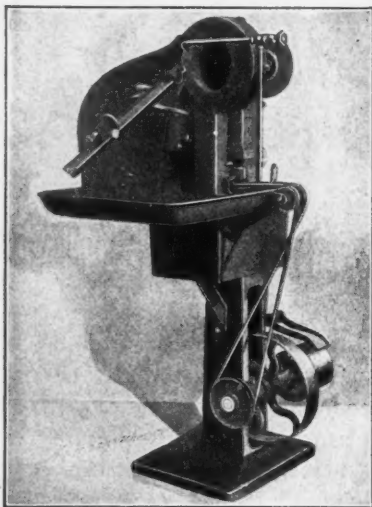

Fig. 15. Water Twist Drill Grinder.
L. S. Heald & Son, Barre, Mass., are now building certain styles of their "American" twist-drill grinder with a water attachment for flushing the drill while being ground. Fig. 15 gives a general view of style W. T. A. of the drill so arranged. Not only the matter of supplying sufficient quantities of water, but also that of properly taking care of it after it has been put on the wheel, has been carefully worked out in this machine by the provision of a system of hoods, shield and drain-